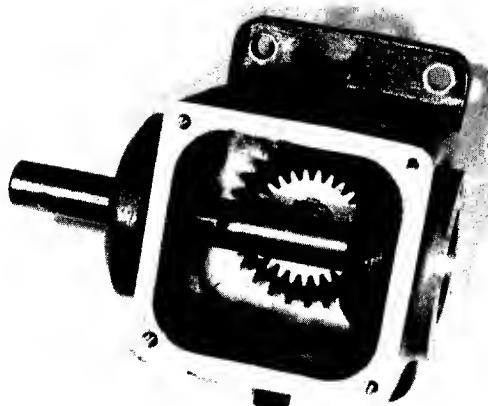

FIG. 10.15--INPUT SHAFT POSITIONED IN GEAR-BOX
20. Insert input shaft into gearbox and through gear with key, Fig. 10.15.